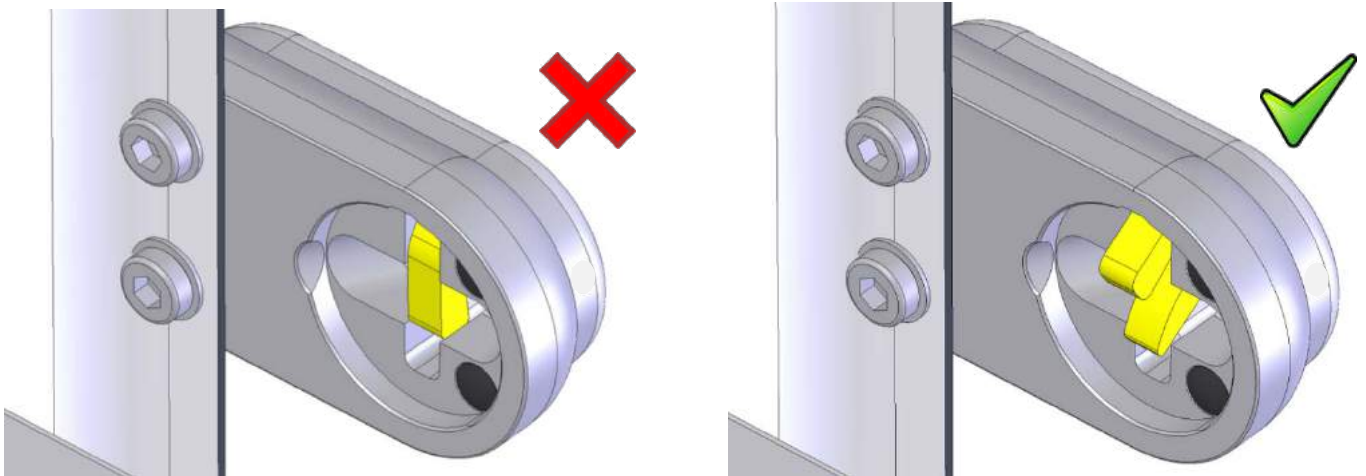

Fig.19
**Ensure that the cam is open before closing the door** (the cam would impact violently against the strike plate) (fig.19).